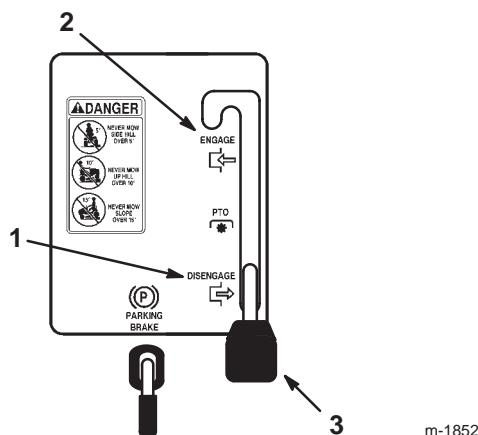

Figure 5
2. Shift the blade control (PTO) lever to Engage (Fig. 5).
2. Shift the blade control (PTO) lever to Disengage (Fig. 5).
- Shift the blade control (PTO) lever to Disengage (Fig. 5).